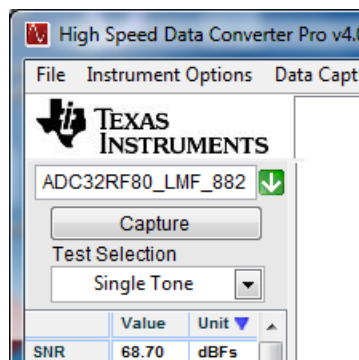

Figure 23. HSDC Pro Device Selection LMFS8821 Mode
4. Use the *Select ADC* drop-down menu at the top left corner to select *ADC32RF80_LMF_8821* as Figure 23 shows.